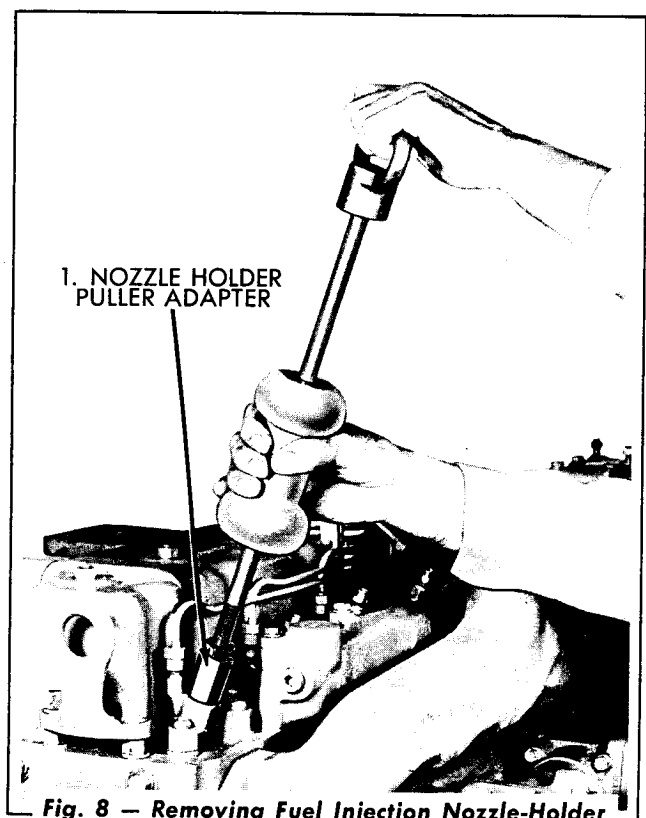

Fig. 8 - Removing Fuel Injection Nozzle-Holder
4. If for any reason the nozzle-holder assembly is stuck in the cylinder head, a nozzle-holder puller adapter and slide hammer puller (similar to the ones shown in Fig. 8) can be used to pull the fuel injection nozzle-holder assemblies.